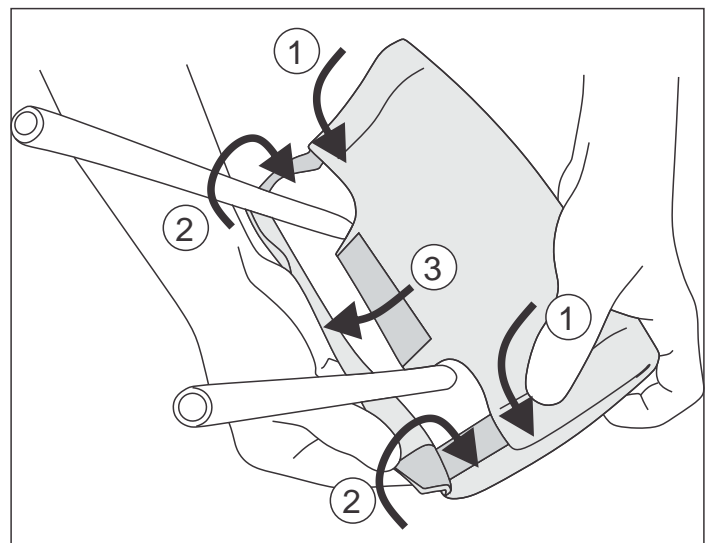

Fig. 12
12. Attach the hook and loop tapes underneath. (Fig. 12)